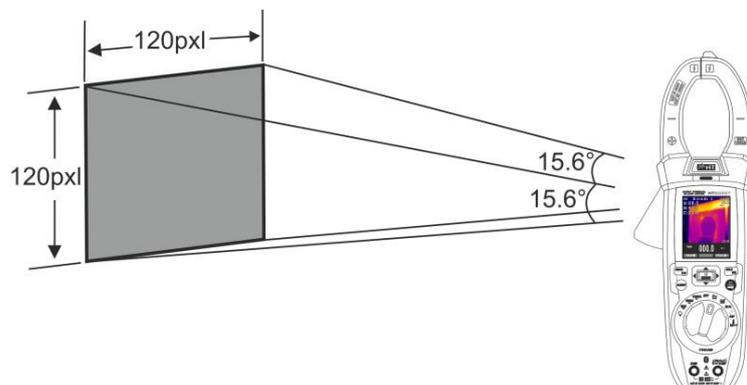

Fig. 43: Representation of the field of view (FOV) of HT9025T
7. For accurate temperature measurements, make sure the surface of the measured object is always bigger than the surface measurable by the instrument, which is given by the instruments field of view (FOV). HT9025T has a field of view of $15.6^\circ \times 15.6^\circ$ and a detection vector of 120x1200 (14400) pxl, as described in Fig.43